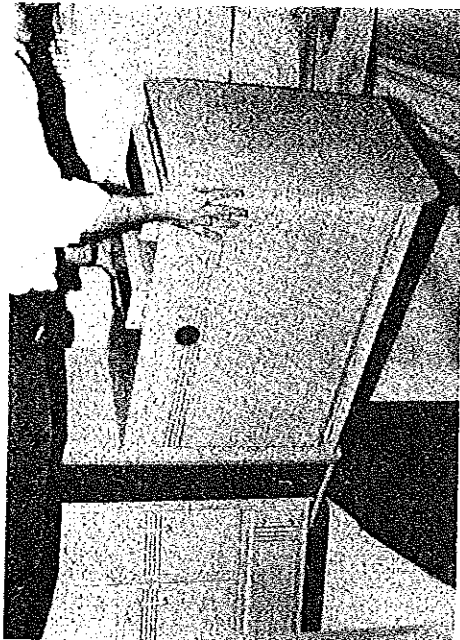

FIGURE 17
20. Grasping the wardrobe with two hands, lift and hold in the vertical position with one hand. See Figure 17.